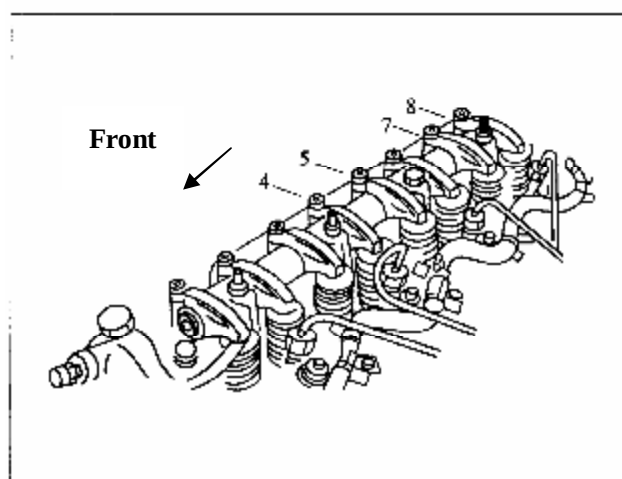

Figure 3-24 Valve clearance adjustment, valve 4,5,7,8
(3) After adjustment is done, turn crankshaft 360 degree. At the moment, 4th piston is at its TDC of compression stroke. Perform same adjustments on remaining 4,5,7,8 valves. (See figure 3-24)
Mark with pencil 8-12 lines (see figure 3-24) along the circumference of valve head cone. Put valve back and slap valve seat gently many times (do not turn valve). If pencil lines cut off in the middle of band, it indicates sealing is well. Another method is to remount valves and springs, pour kerosene into intake and exhaust ducts. If no leakage is seen in 2-3 minutes, it indicates the sealing is well.